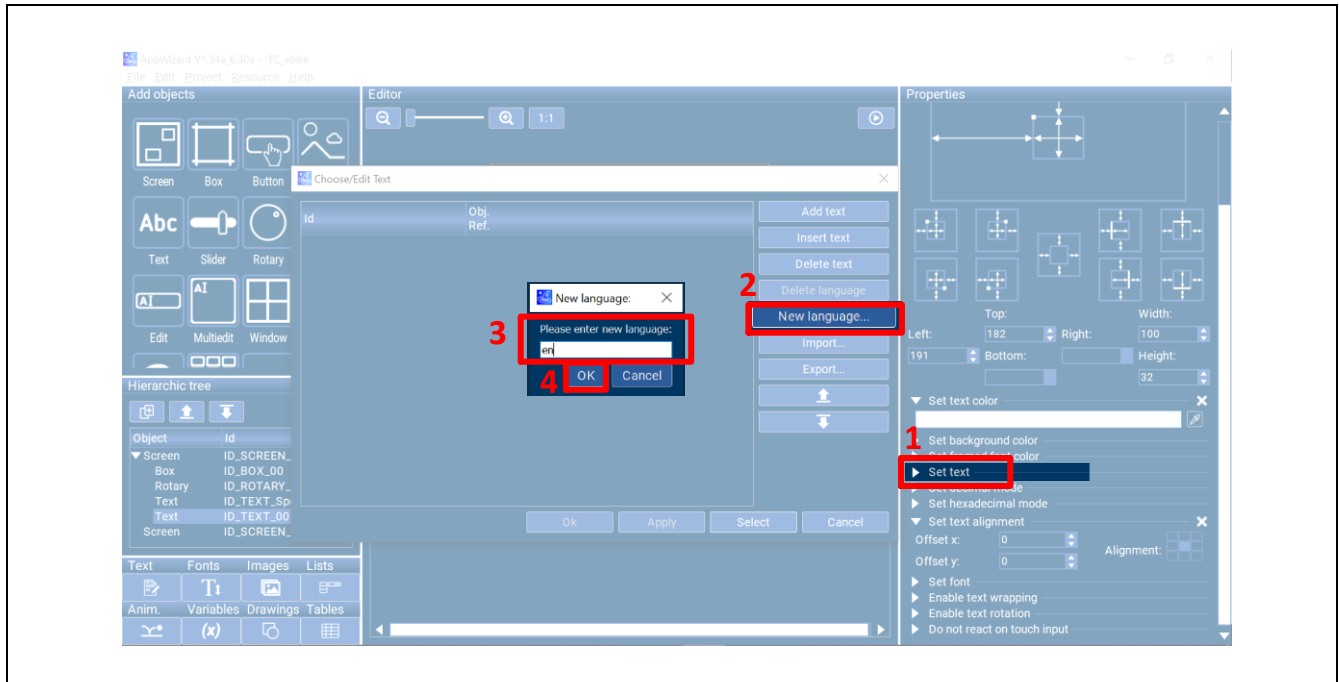
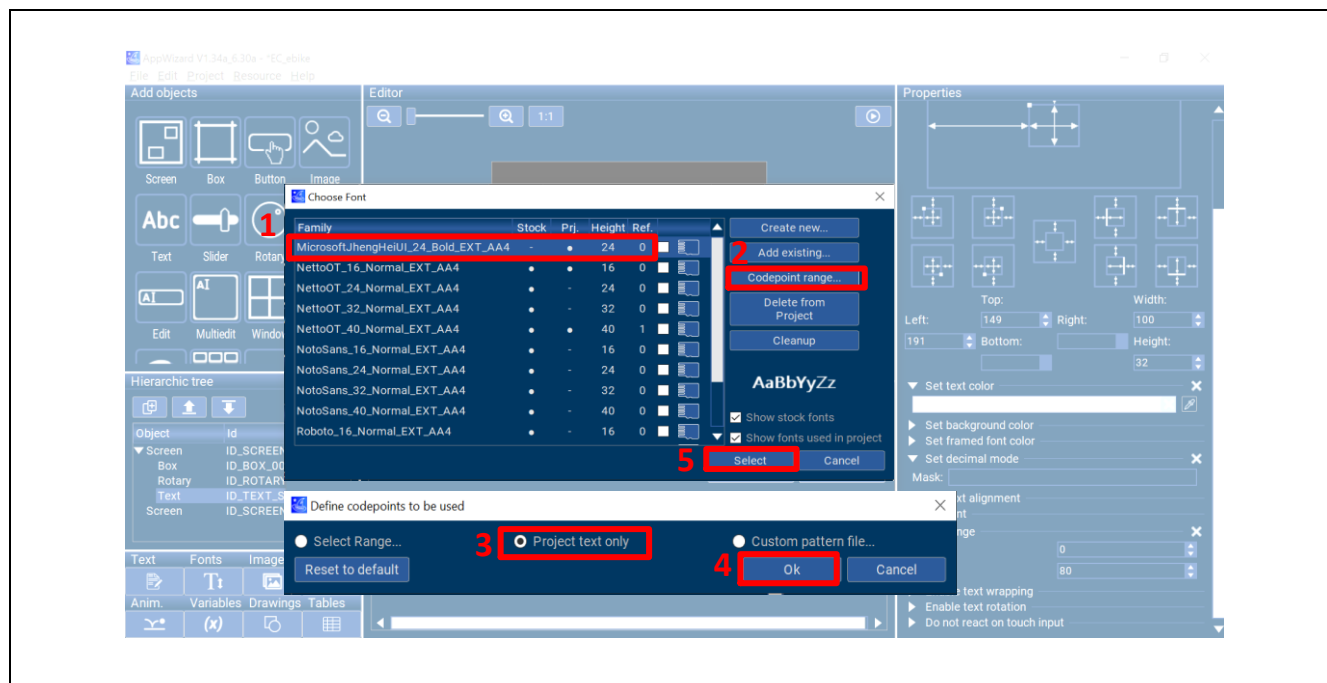

Figure 1-22 Text Object – Properties – Create 1st Text Language (English)
Figure 1-26 Text Object – Properties – Font and Codepoint Range
- 2) Follow the steps shown in Figure 1-22 to Figure 1-26 to configure the displayed text and show both Chinese and English languages simultaneously.